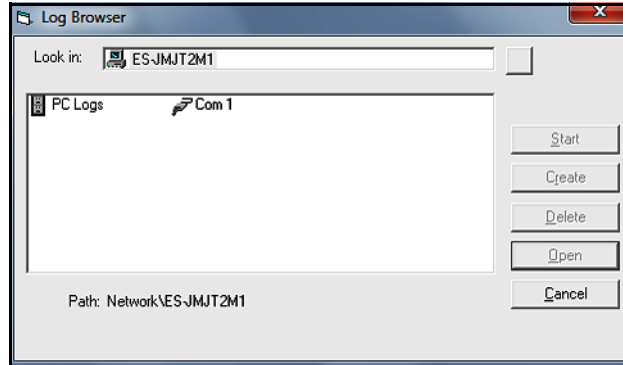

Figure 73: Communication Port Selection
- a. Double-click *computer name* to move to the network level shown in *Figure 73* below.